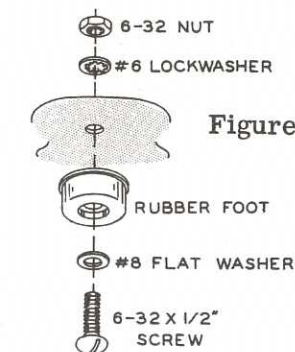

Figure 11
- ( ) Install the rubber feet in the four holes in the bottom of the cabinet. See Figure 11. Use 6-32 x 1/2" screws, #8 flat washers, #6 lockwashers, and 6-32 nuts.